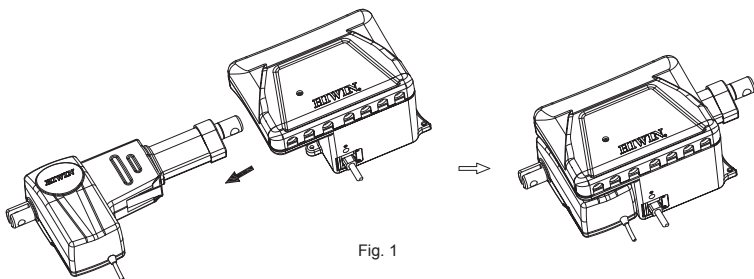
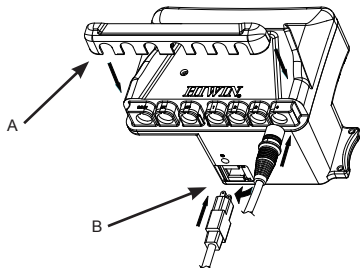

Fig. 1
Fig. 3
5. LAN1 and LAK4N Installation: Align a bolt on LAK4N controller with LAN1 notch to insert downward (Fig. 1). There is one 3/16" *20 lock screw circled in Fig. 2 to fix an actuator and controller.
6. Installation of LAK4N Fixer: Vertically and upwardly remove a fixer (A) from LAK4N controller. After inserting connectors of an actuator and key box, vertically insert back a fixer (Fig. 3) along the arrow direction. Before inserting main power cord, rotate out the locker (B) along the arrow direction to insert power cord (Fig. 1) and then pull it back (Fig. 4) along the arrow direction.